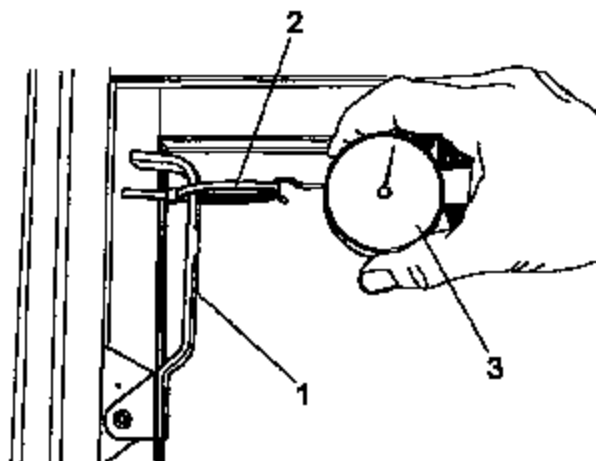

Figure 1-1 Attaching Tension Gauge to Egress Handle
1. Attach force gauge (3) to the egress handle with a wire tie (2). See Figure 1-1.